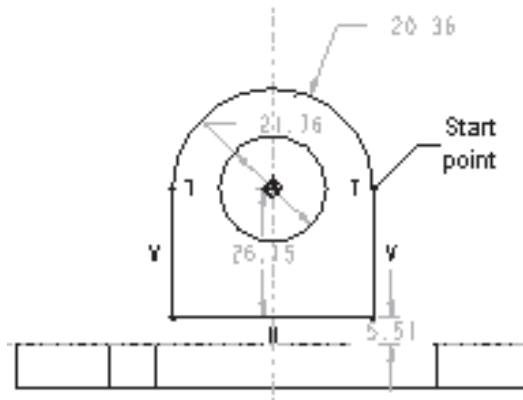
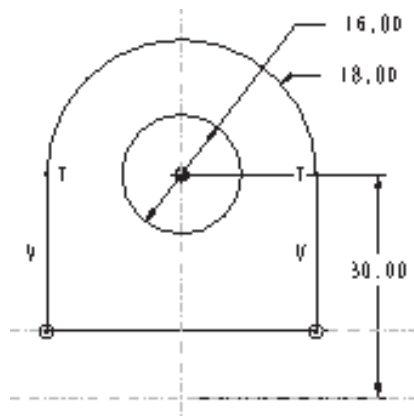

Figure 6-24 Sketch of the second feature
Figure 6-25 Sketch of the second feature
- c. The second feature is also an extruded feature, see Figure 6-25. The sketch of the second feature will be created on the right planar surface of the base feature, see Figure 6-24, and then it will be extruded to a depth of 9.
4. Choose the **Create lines** button from the **Right Toolchest** and draw the right vertical line starting from the point shown in Figure 6-24. Notice that the endpoint of the right vertical line is not aligned with the edge on the top face of the base feature. Next, draw the horizontal line in continuation with the first line as shown in Figure 6-24. Notice that since the endpoint of the right vertical line is not aligned with the edge on the top face of the base feature, the horizontal line is also not aligned with that edge. Remember that if the horizontal line is aligned with the top face, the resultant feature may not get copied.
5. Next, draw the left vertical line in continuation with the horizontal line and then complete the sketch by drawing the arc and the circle, see Figure 6-24. Since the **Intent Manager** is on, some weak dimensions will be applied to the sketch.
8. Add the dimensions and then modify them as shown in Figure 6-25. After completing the sketch, turn the model display to **Shading** and choose the **Continue with the current section** button. The **SPEC TO** menu is displayed.